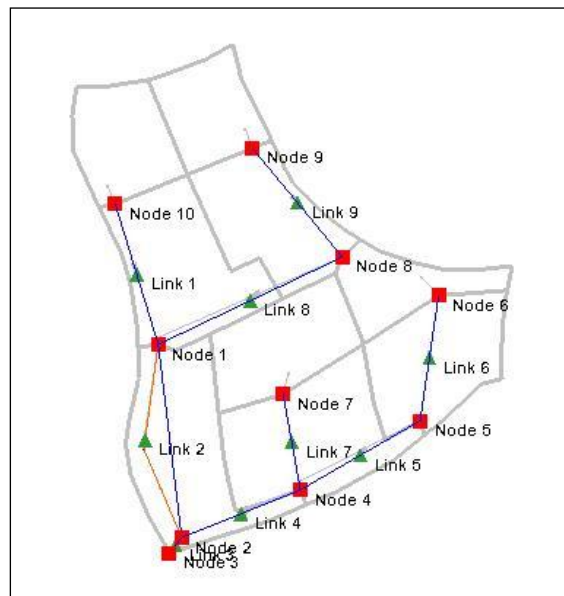

Figure 6-1 Link-Node Schematic for SWMM Model
This will convert our storm drain coverage to a network of links and nodes recognized by SWMM. This command also automatically maps the elevations from our TIN to the ground elevations stored at each node. WMS has also computed the length of each storm drain link and applied a default invert elevation of eight feet below the ground elevation. Your project should now look similar to Figure 6-1.
In the node Properties dialog, notice the invert elevation of Node 10 and Node 1 (according to Figure 6-1). Storm water is supposed to flow from Node 10 to Node 1, but the default invert elevation is higher at Node 1 than at Node 10. We have a similar issue
**Important Note:** for the following steps, node numbers may not match node numbers in your model. Use Figure 6-1 as a reference to determine which nodes correspond to node and link names in your model.
The link Properties dialog lets us specify the dimensions of our storm drain pipes. We'll assume a circular shape for all pipes and no initial flow or depth. The lengths and invert elevations are shown, but the invert elevations at Link 1 and Link 9 need to be updated to reflect the changes we made to the nodes. We also need to define the diameter of the pipes. **Remember:** Use Figure 6-1 as a reference to determine which links correspond to link names in your model.